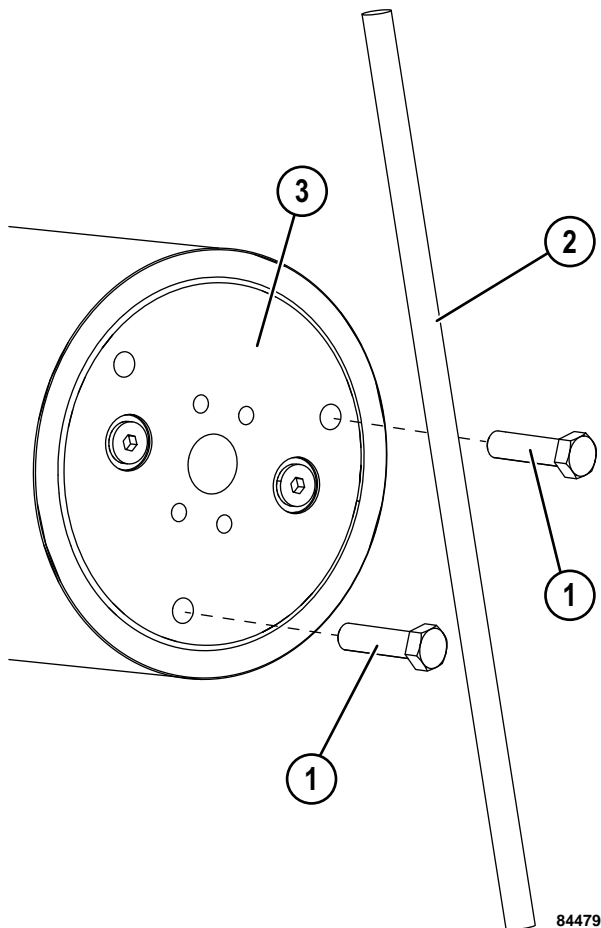

FIGURE 50-48. REMOVING THE END CAP
6. Install two lifting eyes or long capscrews (1, Figure 50-48) in two of the three 5/8" - 11UNC lifting holes in end cap (3).